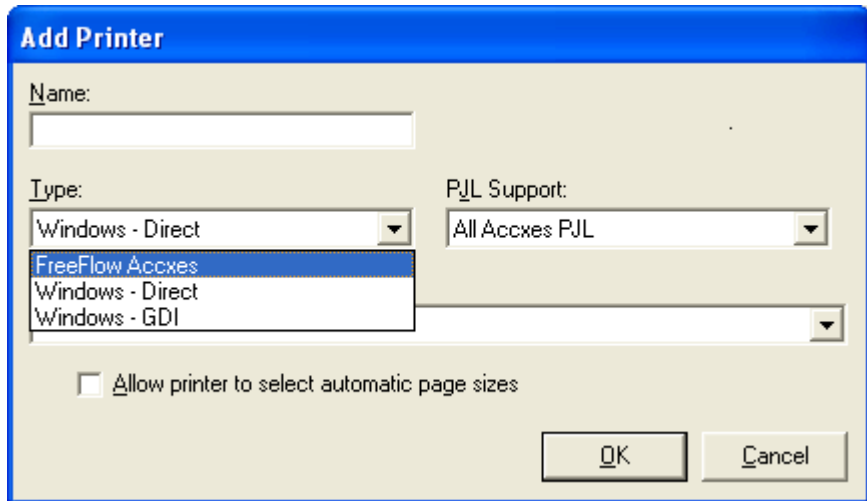

Fig 2.1
- Click [Add], to open the Add Printer window as shown in figure 2.1.